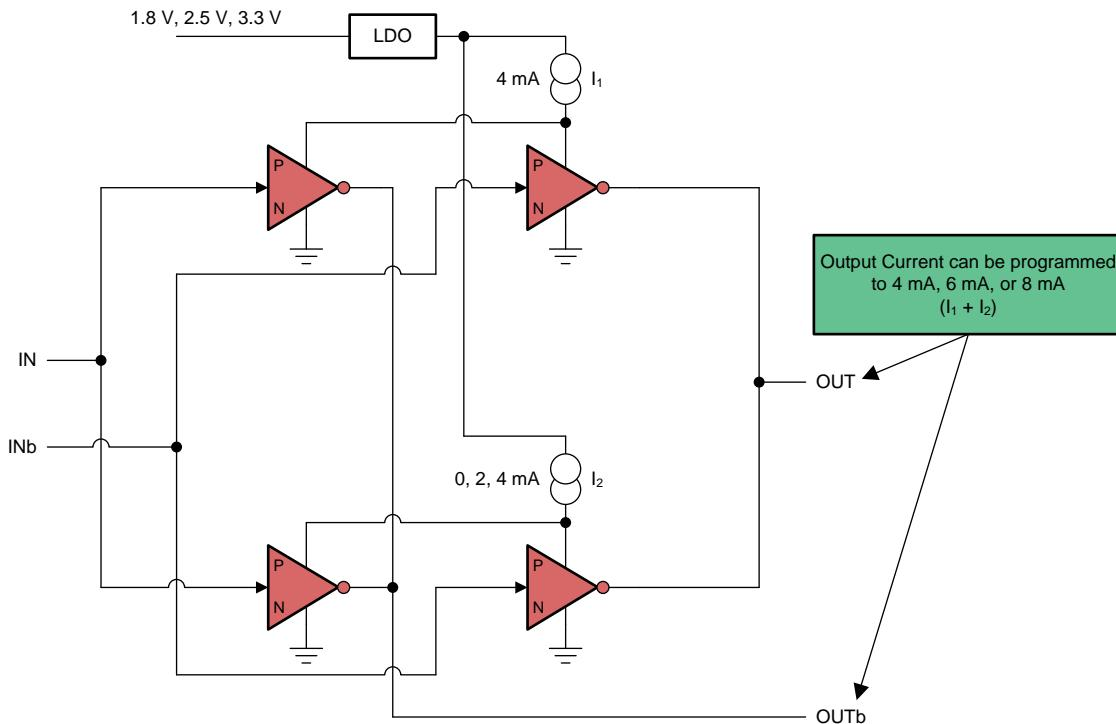

Figure 62. Structure of AC-LVDS, AC-CML, and AC-LVPECL Output Stage
The AC-LVDS, AC-CML, and AC-LVPECL output structure is given in Figure 62 where the tail currents can be programmed to either 4 mA, 6 mA, or 8 mA to generate output voltage swings that are compatible with LVDS, CML or LVPECL respectively. Since this output structure is GND referenced, the output supplies can be operated from 1.8 V, 2.5 V or 3.3 V and offer lower power dissipation compared to traditional LVDS, CML, or LVPECL structures without any impact on jitter performance or other AC or DC specifications. Interfacing to LVDS, CML or LVPECL receivers are done with just an external AC-coupling capacitor for each output. No source termination is needed since the on-chip termination is automatically enabled when selecting AC-LVDS, AC-CML, or AC-LVPECL for good impedance matching to 50 Ω interconnects.
3. The latency is deterministic and its variation is no more than 1 VCO clock cycle and an example scenario is illustrated in Figure 62.